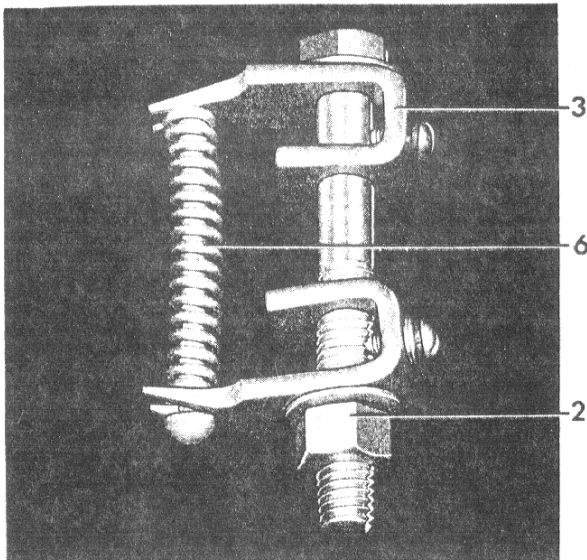

Figure 24A (8034466)
- that it is retained by stop plate (8).
2. Open spring compressor (3) and assemble spring guide, spring and spring compressor (Figure 24A).